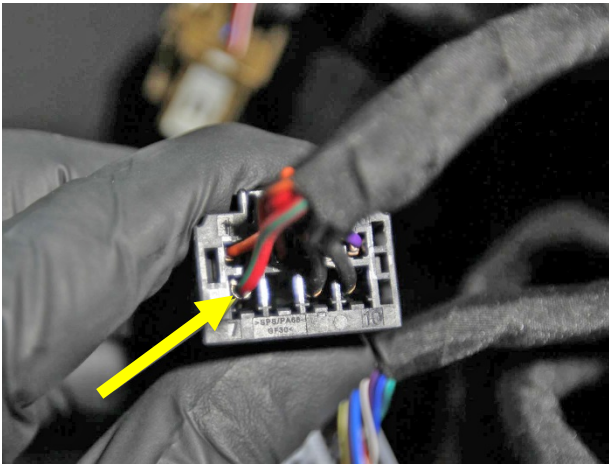

Figure 3
5. Identify the wire that connects to pin 7 on the connector (Figures 3 and 4).